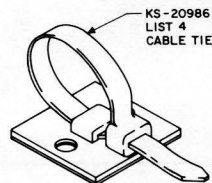

Fig. 11—E Adhesive Cable Tie
6.02 Adhesive cable ties are intended for use where mounting by adhesion may be desirable or the only acceptable means. The E adhesive cable tie (Fig. 11) replaces both the B adhesive cable tie and the C adhesive cable tie.